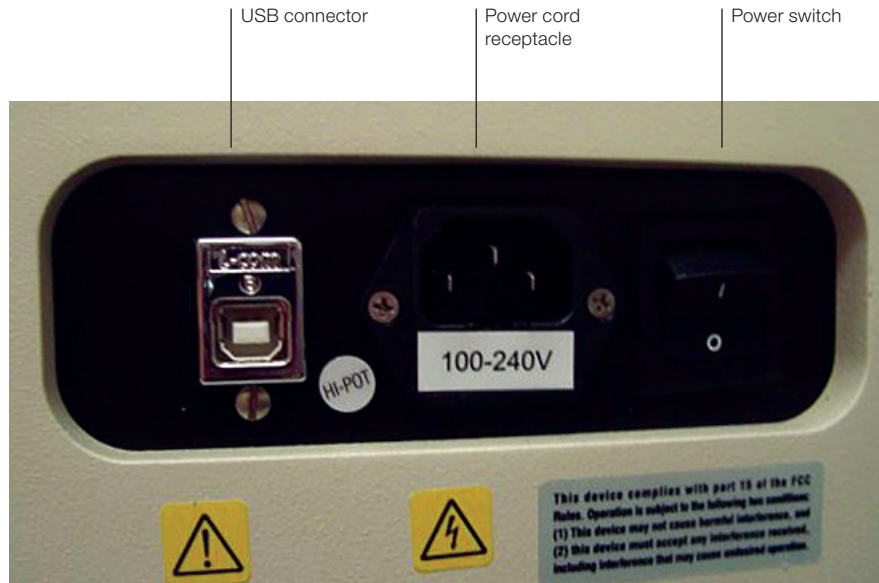

Fig. 10. Rear panel of the CFX Automation System II.
1. Connect one end of the USB cable to the USB connector on the back of the plate handler (Figure 10).
3. Connect the power cord to the receptacle on the back of the plate handler (Figure 10).